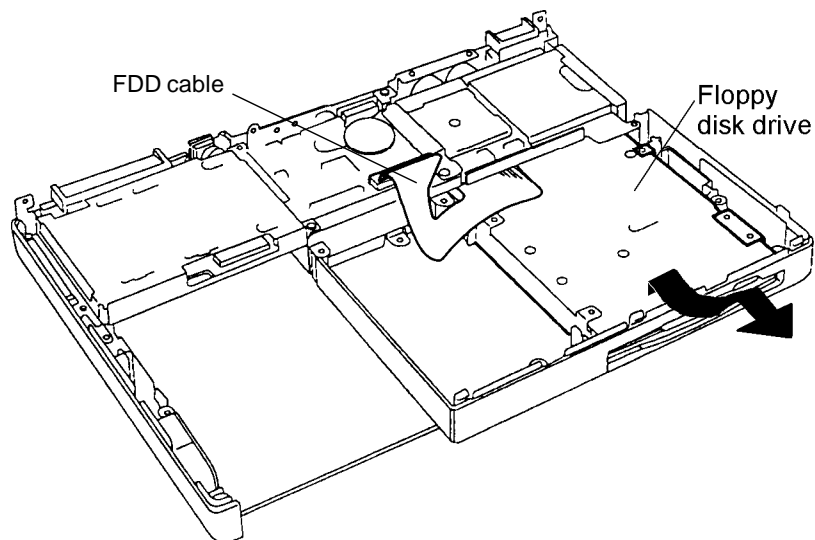

Figure 4-23 Removing the FDD
To remove the T4500/T4600 Family computer's floppy disk drive, follow the steps below and refer to Figures 4-23 and 4-24.
3. Make sure the **FDD cable** is disconnected from its pressure-plate connector on the system PCB, then grasp the **FDD** on both sides and gently lift up and pull the drive toward the front of the computer (Figure 4-23).
To install the T4500/T4600 Family computer's floppy disk drive, follow the steps below and refer to Figures 4-23 and 4-24.
2. Place the **FDD** in the computer (Figure 4-23).